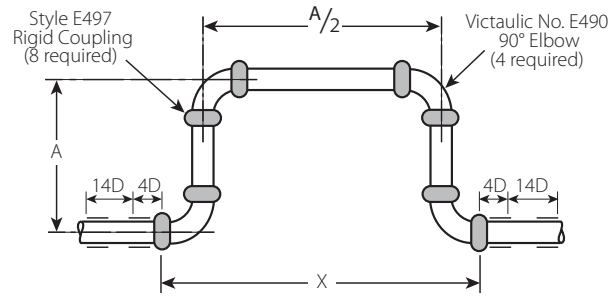

Figure 1
b. Expansion loops utilizing Victaulic rigid couplings and fittings: Expansion loops or “U” bends are frequently used to accommodate the expansion and/or contraction due to thermal changes. The necessary dimensions of a stainless steel pipe expansion loop in a StrengThin™ 100 System can be found in following chart (see Figure 1 for loop height “A”):